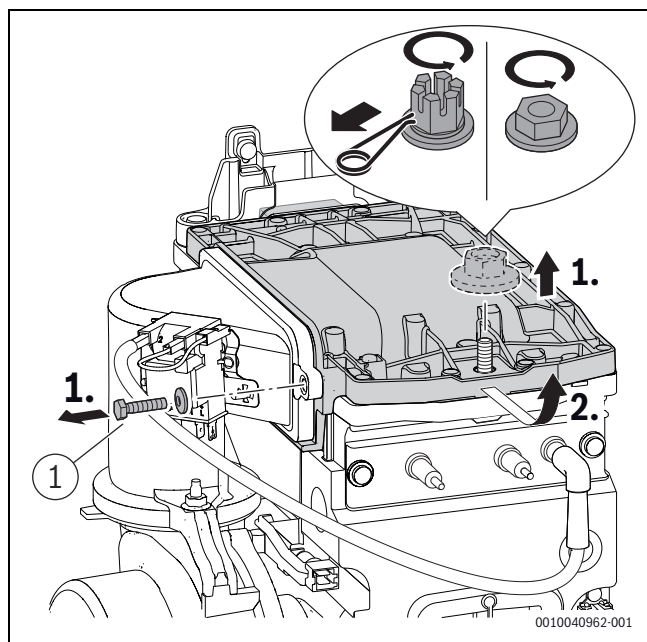

Fig. 47 Removing the burner cover
- Tighten the screw ([1], Fig. 47) on the burner cover with 5.5 ± 0.5 Nm.